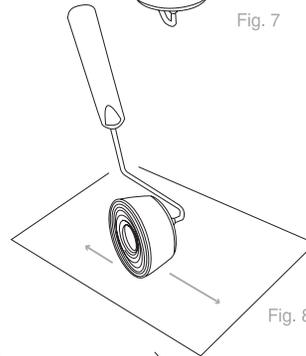

Fig. 8
6. Filter paint through the Edger Head by rolling it on an old newspaper for 2 minutes or until fully covered with paint (Fig. 8).